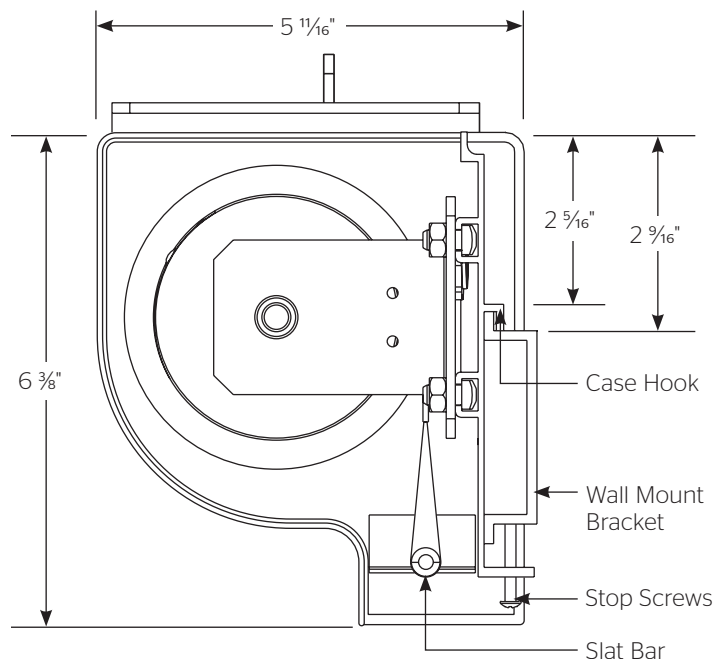

Figure 1
1. Using a #2 Phillips screwdriver, loosen the two stop screws and remove the wall mount bracket from the back side of the case (Figure 1).
5. Tighten the two stop screws against the wall mount bracket using a #2 Phillips screwdriver (Figure 1).